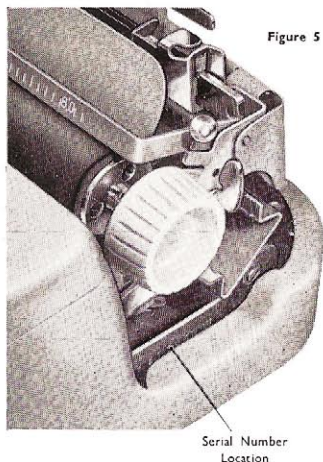

Figure 5
**How to Replace the Ribbon.** Ribbons come wound on proper spools to fit. When purchasing replacement ribbons be sure to specify for Empire-Corona, and give the serial number of your machine. The serial number location is shown in Fig. 5.